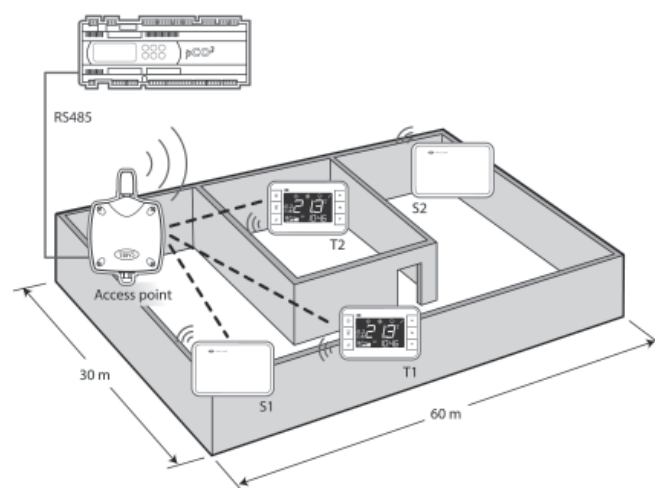

Fig. 3.d
- the distances are large and/or there is infrastructure that prevents communication between the devices (sensor S2 Fig. 3.e).